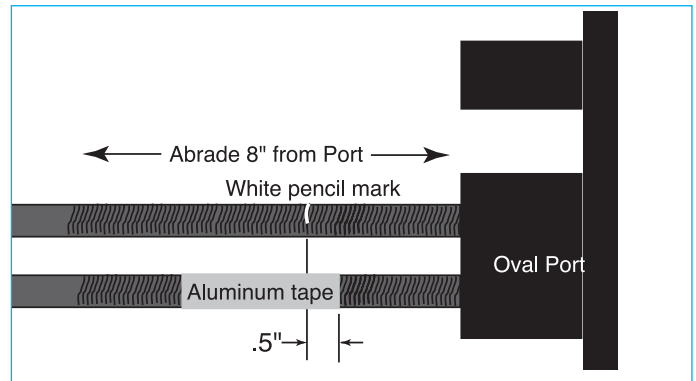

Figure 30.
- 9.4.5 Wrap one lap of aluminum tape around each cable. The edge of the tape closest to the closure should be 1/2" inside the white mark on the cable as shown in Figure 30.